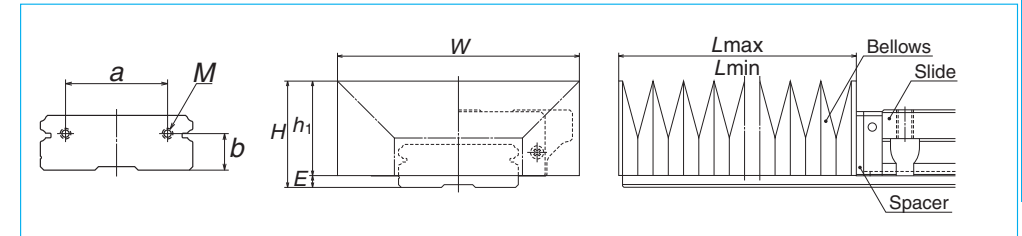
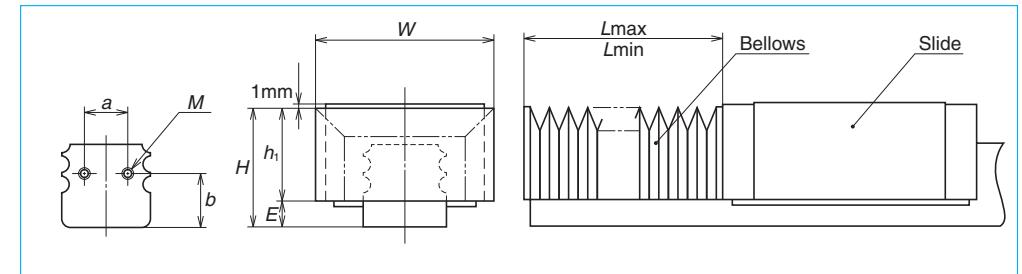

Fig. 7.8
Fig. 7.9
*** Fixing to the ball slide (Fig. 7.8 and Fig. 7.9)**